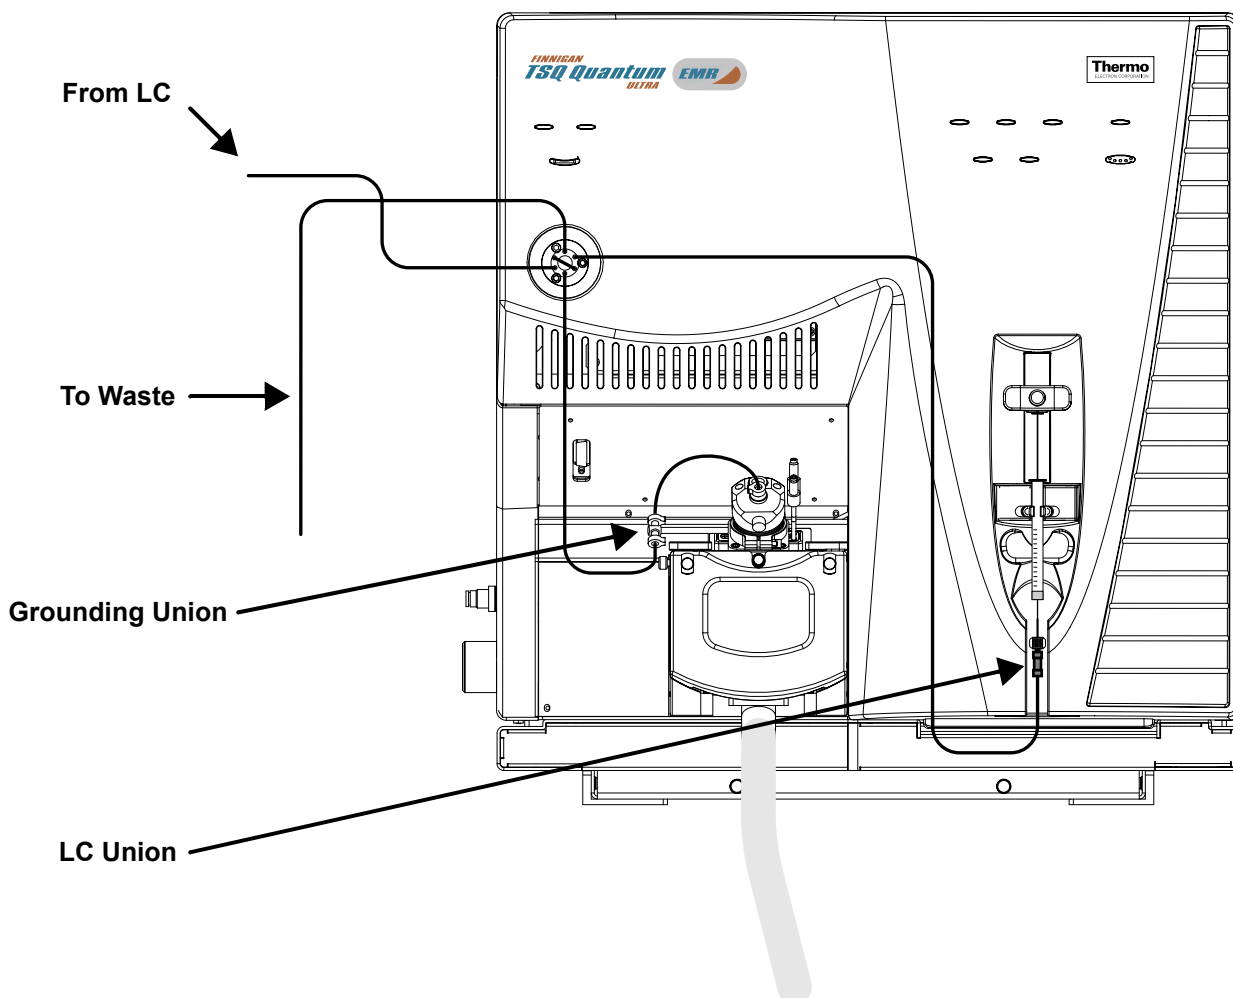

Figure 4-1. ESI/MS plumbing connections for sample introduction by auto loop injection into the solvent flow from an LC
The following procedure describes how to introduce your compound by auto loop injection. The plumbing connections for ESI/MS sample introduction from the syringe pump into the solvent flow from an LC are shown in Figure 4-1.
- c. Connect the other end of the tubing with a fingertight fitting and a ferrule to the grounding union on the ion source. (Figure 4-1)